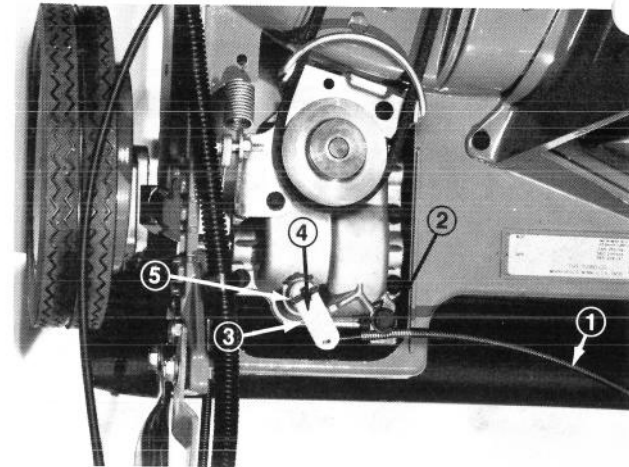

Figure 43
4. Loosen the capscrew securing the ground speed control cable (Fig. 43, item 1).
6. Push transmission control lever to right in direction of cable clamping capscrew as far as possible hold in position and tighten capscrew (Fig. 43).